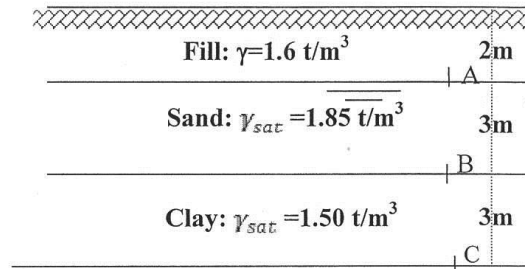

Fig. 2
- For the soil profile shown in Fig. 2, find the total vertical stress and vertical effective stress at points A, B and C.